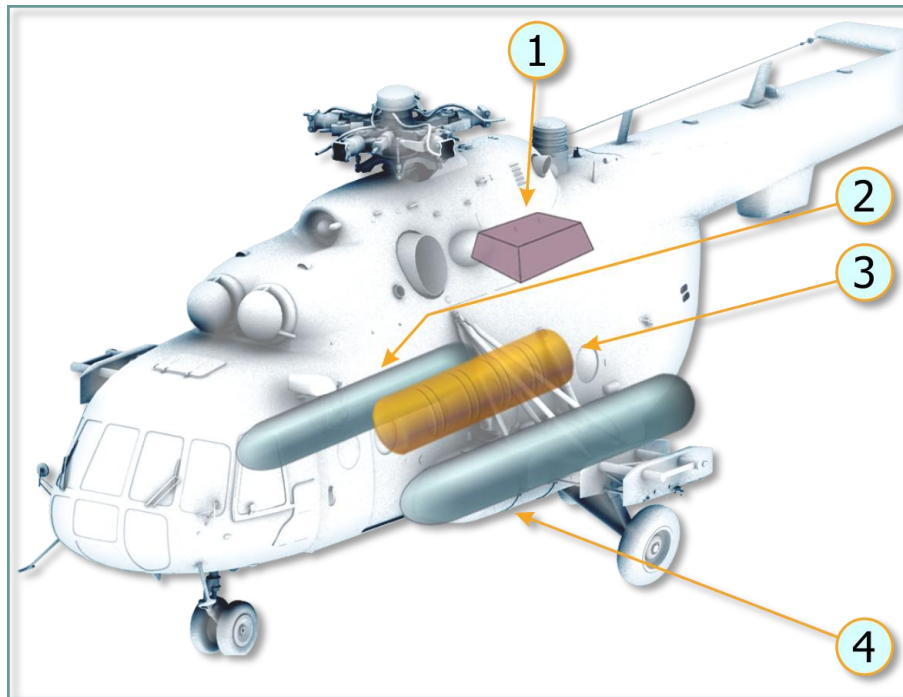

Fig. 7.5. Location of Fuel Systems Units
Onboard helicopter, fuel is located in three main fuel tanks lined with self-sealing polyurethane (PU) foam: two saddle tanks are located on either side of fuselage and one service fuel cell is located in container behind main gear, Fig. 7.5